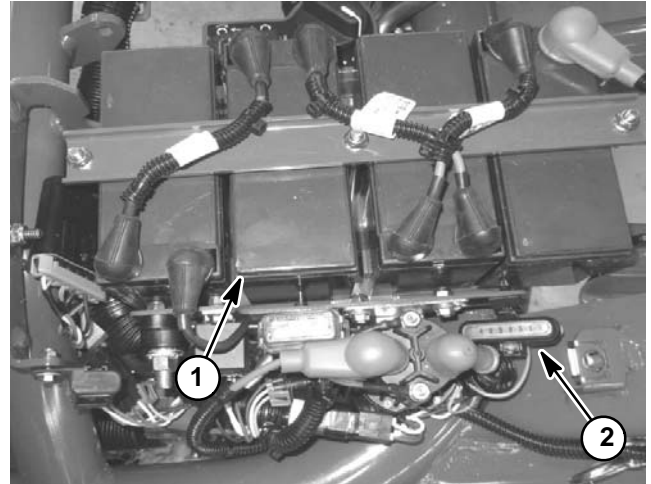

Figure 82
The location ID module exists in the electric cutting reels circuit to identify the location of the three (3) cutting reel motors. This module allows such machine features as raising the center cutting unit slightly later than the front cutting units. The location module plugs into the E-Reels wire harness under the left side cover next to the operator seat (Fig. 82).